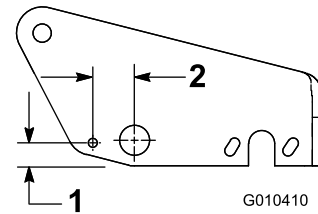
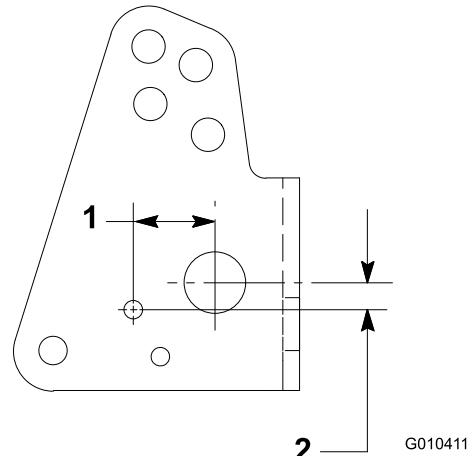

Figure 9
Figure 10
- A. Using the dimensions shown in Figure 9 for the Greensmaster 3100 and Figure 10 for the Greensmaster 3050, locate and scribe a line on the appropriate frame member.